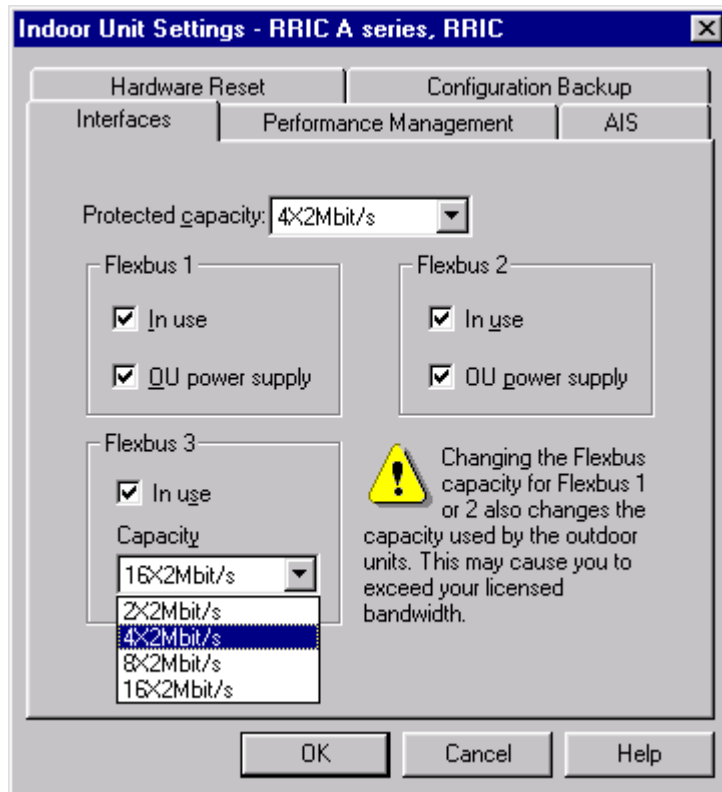

Figure 16. Indoor Unit Settings dialog box (RRIC, protected)
To check or change indoor unit settings, select FIU 19 (E) or RRIC unit on the **Select Object** dialog box. The **Indoor Unit Settings** dialog box opens (Figure 16). Click the tabs to switch between pages.